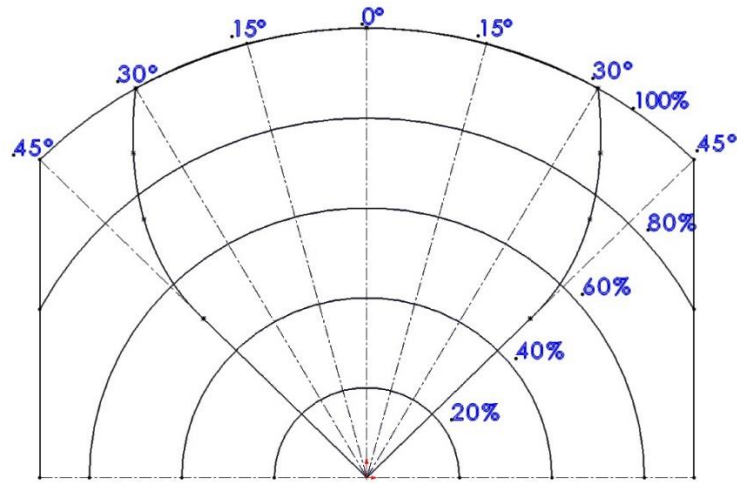
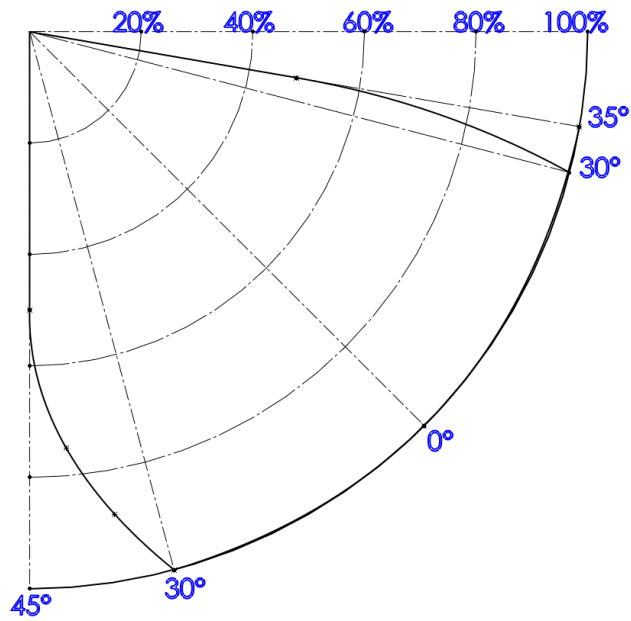

FIGURE 11 – HORIZONTAL FIELD OF VIEW, 90°.
FIGURE 12 – VERTICAL FIELD OF VIEW, 80°.
-  The field of view of the detectors (See Figure 11 and Figure 12).